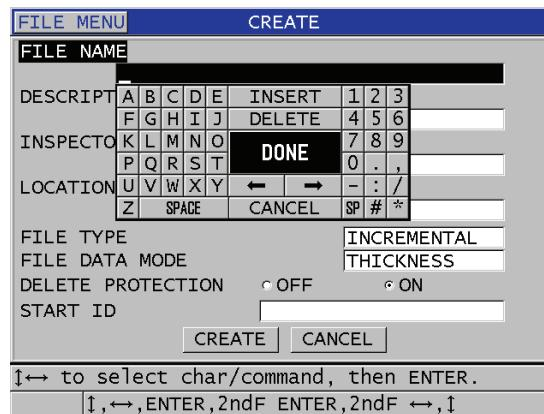

Figure 11-4 The CREATE screen for the incremental data file type
2. In the **CREATE** screen (see Figure 11-4 on page 158):